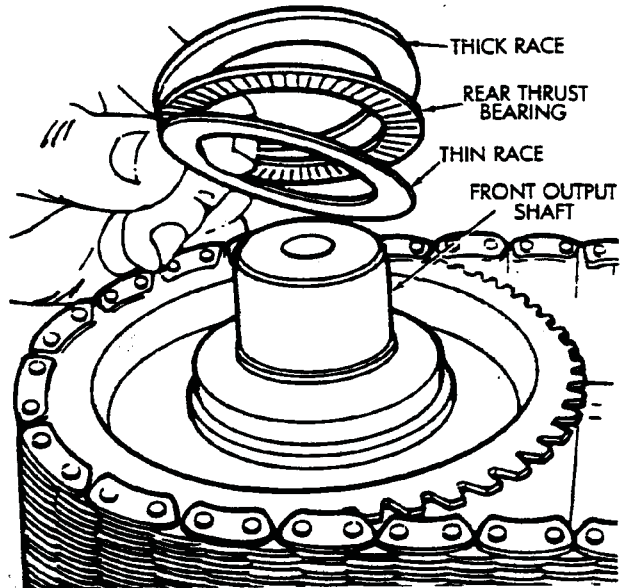

Fig. 4-60 Install Front Output Shaft Rear Thrust Bearing and Races
57. Install front output shaft rear thrust bearing races (Fig. 4-60).